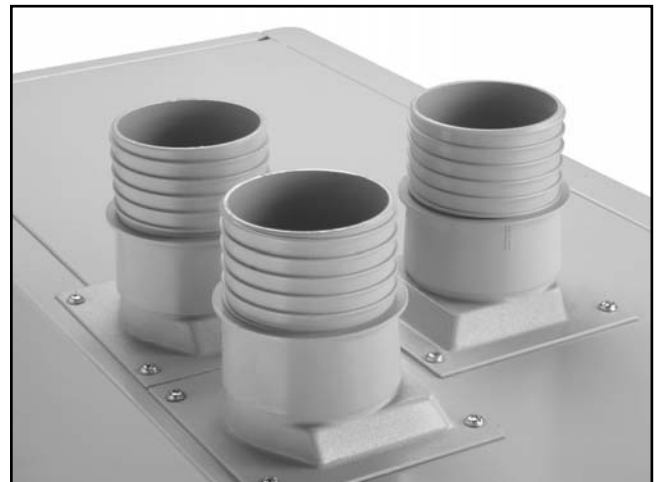

Figure 13. 4" dust ports.
1. Install the three 4" dust ports (**Figure 13**) to the mounting locations on the top of the sanding unit with the supplied M6-1.0 x 10 Phillips head screws.